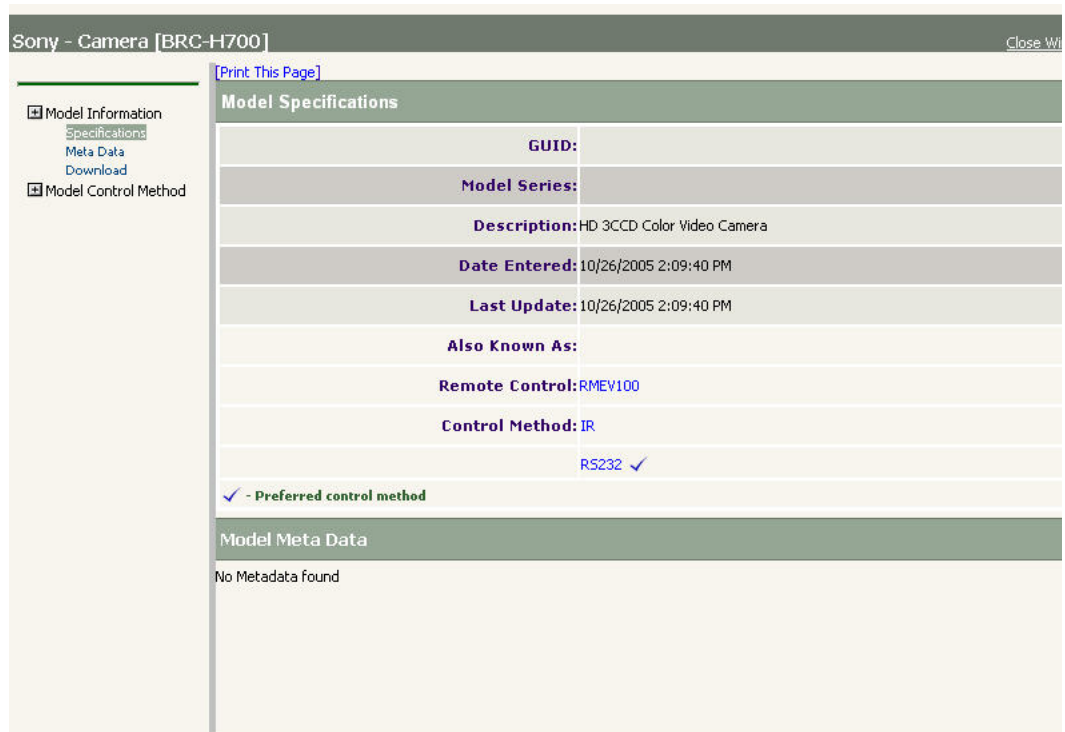

FIG. 75 InConcert Resource Center - Device Model Details dialog
7. Click on the link for the desired device to open the *Device Model Details* dialog. Use this dialog to view device specifications and download associated files, including the Duet Module (*JAR) file (FIG. 75):